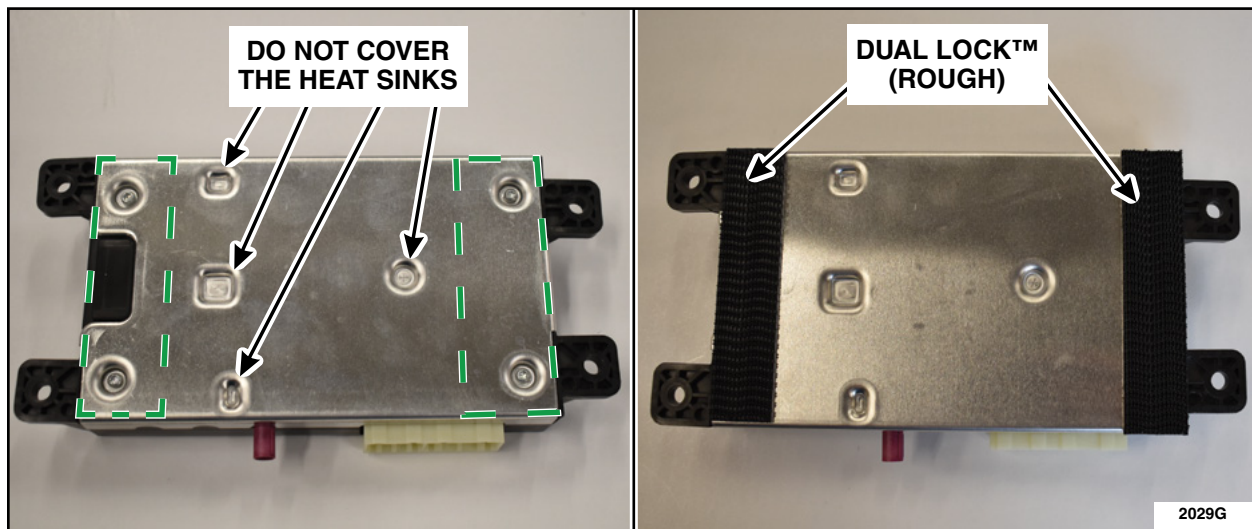

FIGURE 5
6. TCU Preparation. See Figure 5.